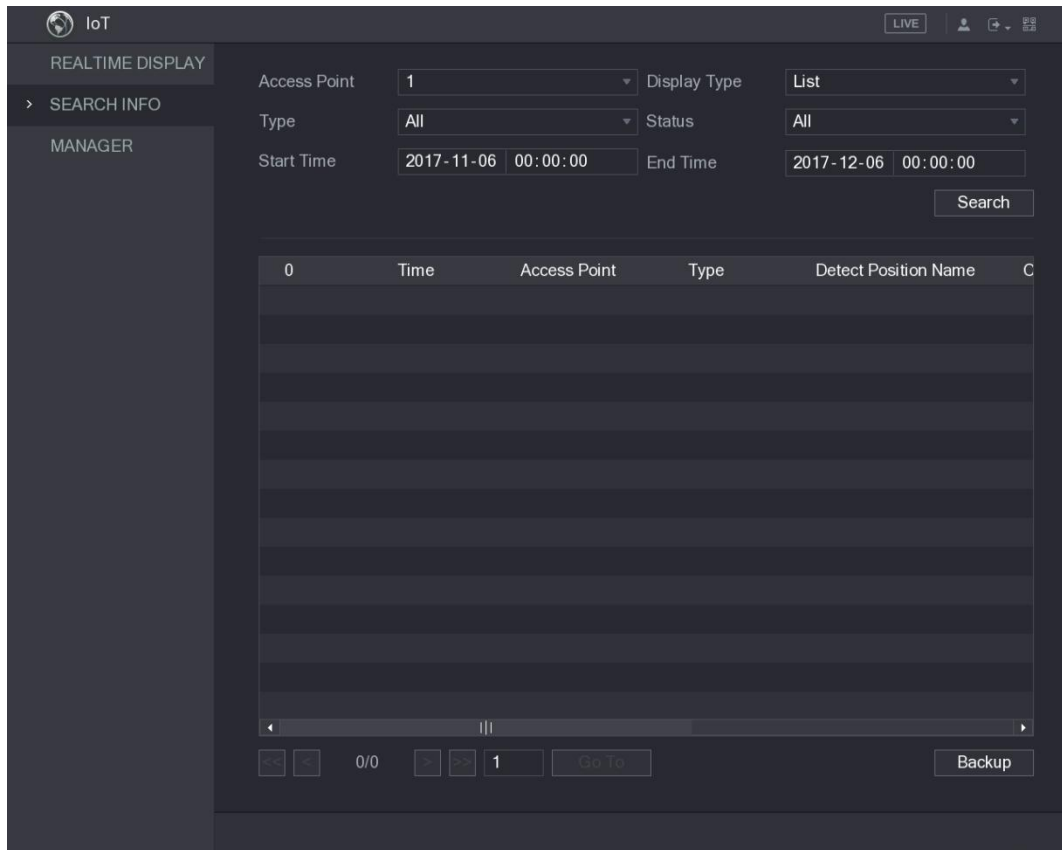

Figure 5-182
Step 1 On the main interface, select **IoT > SEARCH INFO**. See Figure 5-182.